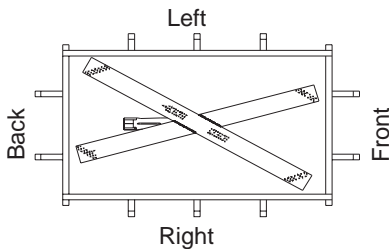

Figure 44 - Burner and Grate (Top View)
7. Figure 44, page 19, shows the top view of the burner and grate.